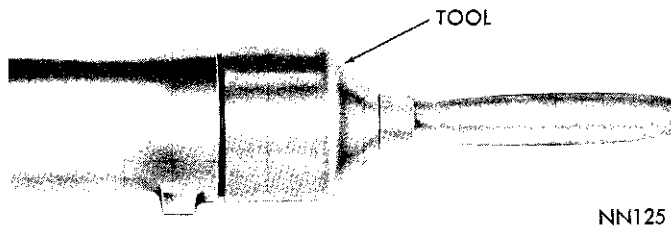

Fig. 22—Installing Extension Housing Yoke Seal
(3) To install a new seal, position seal in opening of extension housing and drive it into housing with Tool C-3972 (Fig. 22).
(4) Carefully guide front universal joint yoke into extension housing and on the output shaft splines. Align marks made at removal and connect propeller shaft to rear axle pinion shaft yoke.